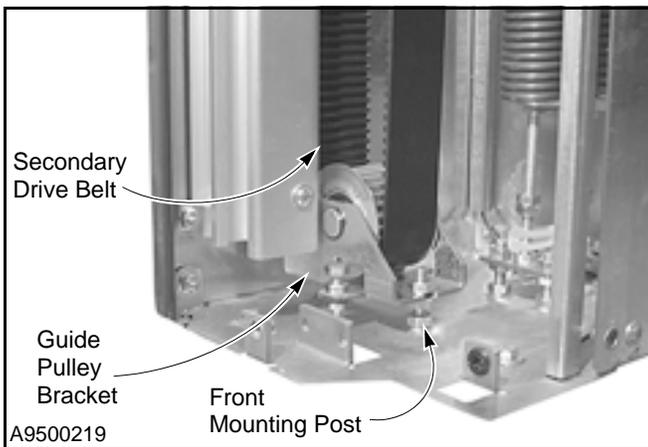

Figure 42
4. Release the tension on the secondary drive belt by disconnecting the guide pulley bracket from the front mounting post. (See Figure 42.)